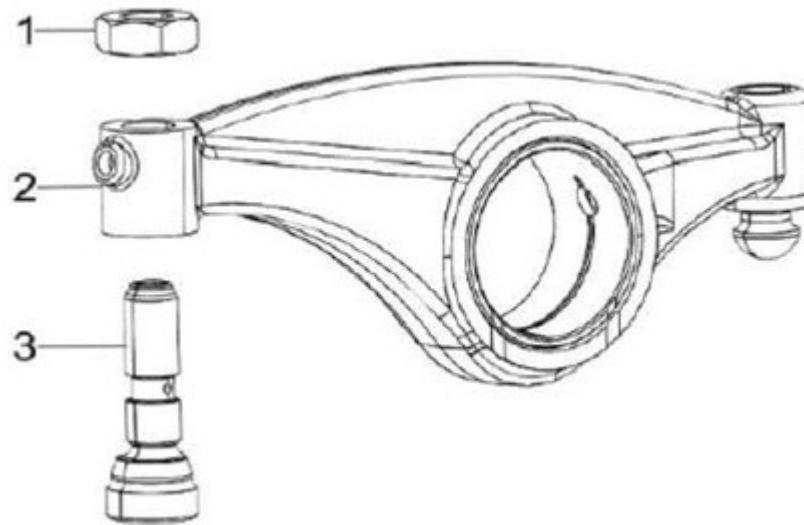

Figure 79. Rocker Arm Assembly
4. If removed, reinstall the valve adjusting screws (Figure 79, Item 3) and the lock the nuts (Figure 79, Item 1).